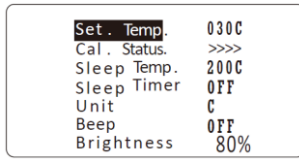

Fig.6
3.2. When Cal. status display ">>>>" (see Fig 6.) , it means "Real Temp." has calibrated and increase temperature.